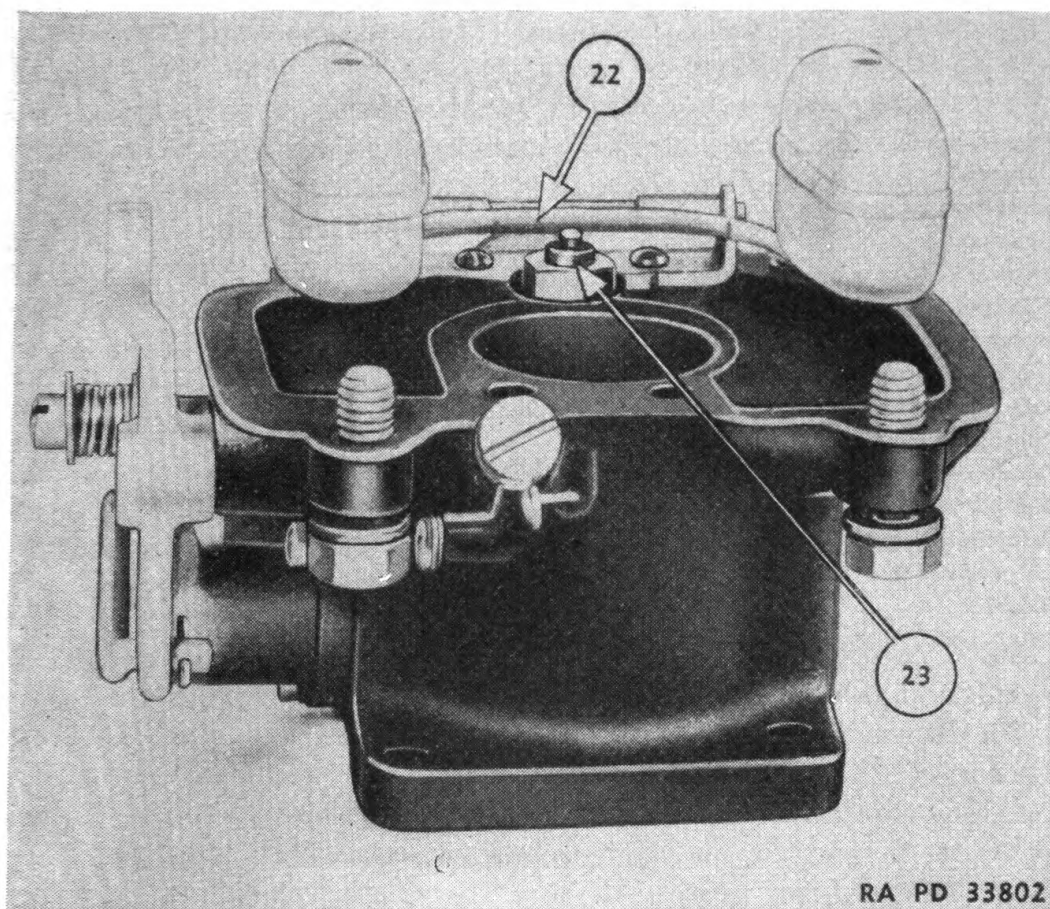
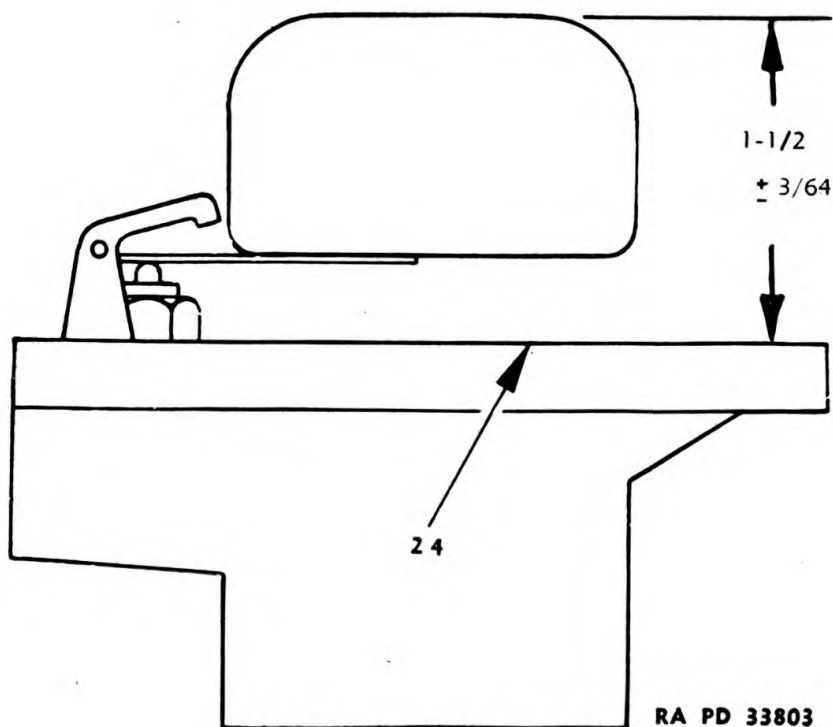

FIGURE 87.—Float assembly.
FIGURE 88.—Air intake and float.
83. Float assembly.—If fuel valve (23) (fig. 87) leaks as evidenced by fuel leaking out of the intake manifold breather on the starting engine, inspect the seat of valve assembly after removing pin (22) and float assembly. Clean any foreign material from the seat or, if worn, replace the valve assembly. If a measurement of $1\frac{1}{2}$ inches plus or minus $\frac{3}{64}$ inch does not exist between the face (24) of the air intake assembly (fig. 88) (without gasket) and the float as shown, replace the float assembly.